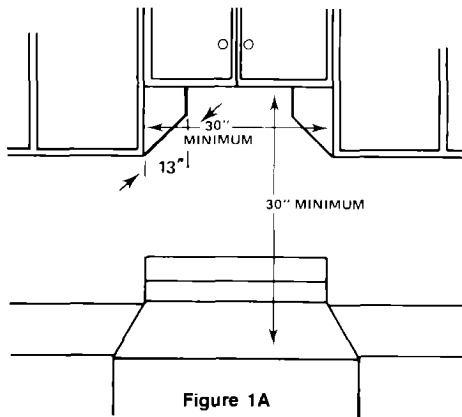
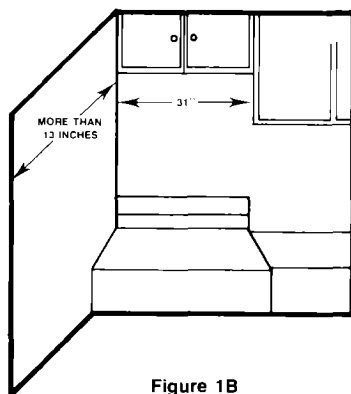

Figure 1A
Figure 1B
This microwave oven requires a minimum opening on a flat vertical wall 30" wide.* The top surface of the unit must be a minimum of 30" above the cooktop surface. See Figure 1A.
*If this microwave/hood is installed in cabinetwork that extends beyond 13" (see Figure 1A) or along a side wall that extends more than 13", an extra one inch will be required for proper door opening clearance. See Figure 1B.